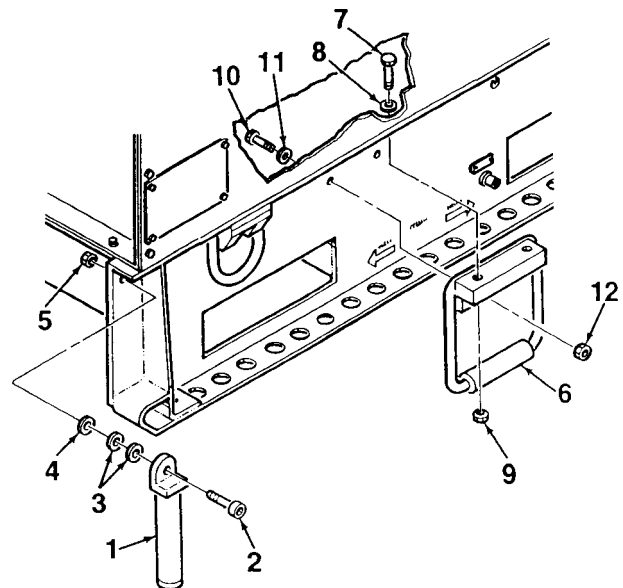

Figure 4-26. Lifting Handles
1. Remove lifting handle (1, Figure 4-26) from generator set skid base by removing screw (2), washers (3, 4), and locknut (5).
3. Remove lifting handle (6) from skid base by removing two screws (7), washers (8), locknuts (9), and three screws (10), washers (11), and locknuts (12).
1. Install lifting handle (6, Figure 4-26) onto skid base using two screws (7), washers (8), locknuts (9), and three screws (10), washers (11), and locknuts (12).
2. Install lifting handle (1) onto skid base using screw (2), washers (3, 4), and locknut (5).